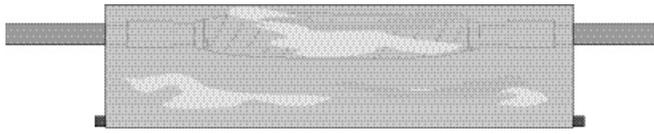

Figure 9
20. Remove the backing paper from both ends of the sheet and press the exposed sticky portions of the sheet together as smoothly as possible. (Figure 9)